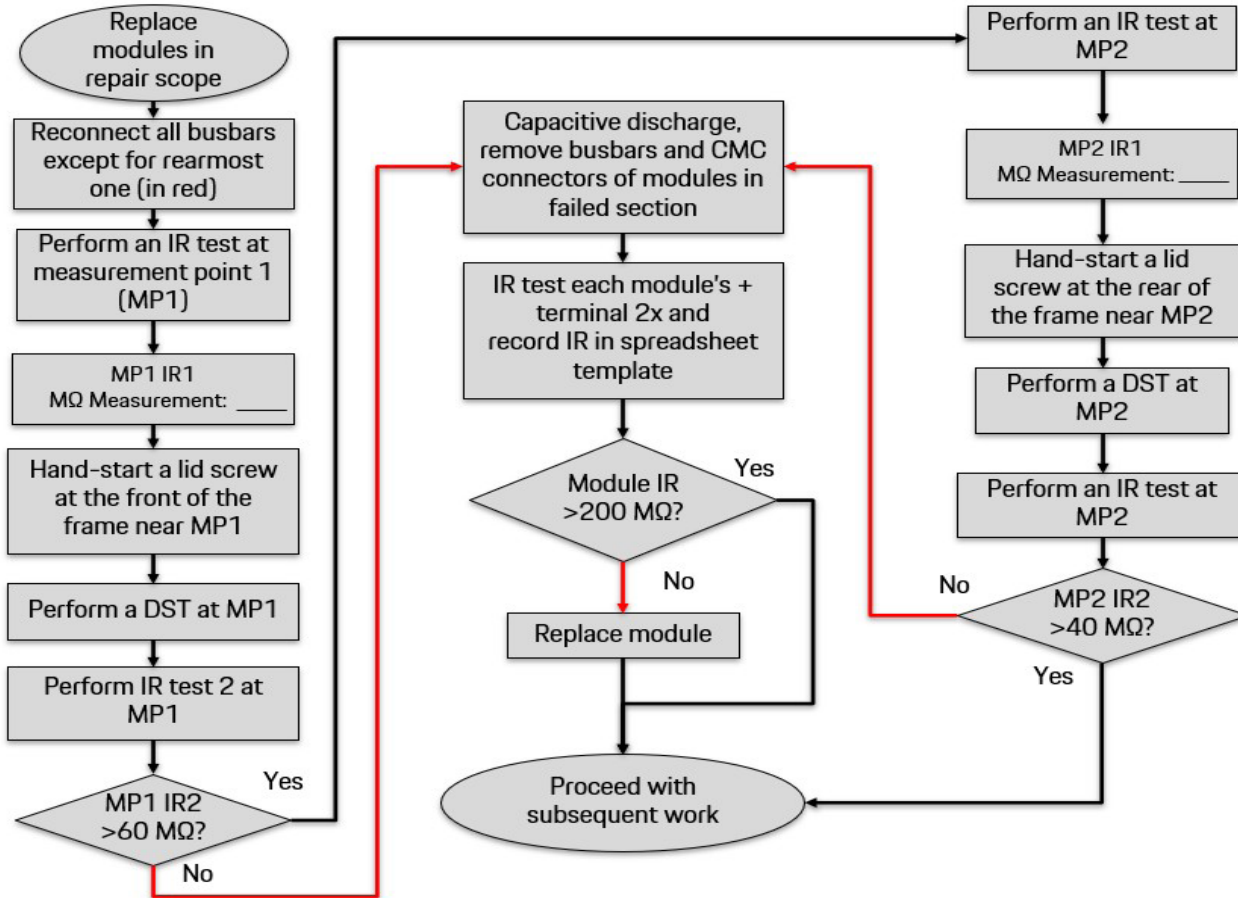

Figure 2 - 28-module Flowchart
- ▷ Repair scopes in only the upper "T" section require an initial DST (in addition to the points in *figure 2*) at the mid-pack fuse as shown in step 3.9.3 of Safety test after assembly work on the high-voltage battery with 33 modules in WM 270803A5. Only proceed with removing lower lid if this initial DST fails.
- If the DST passes but IR falls below the thresholds in figures 2, 4, and 5, proceed with IR testing each module.